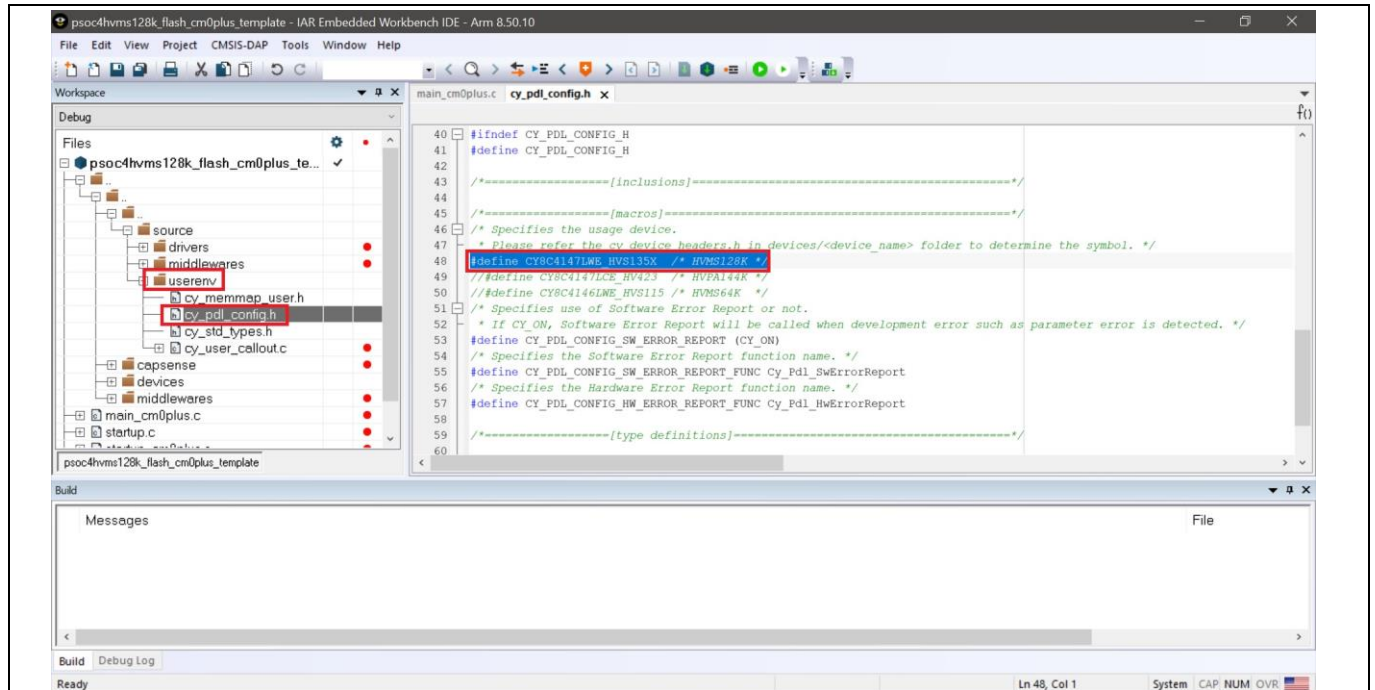

Figure 21 Selecting target device
- Open “cy_pdl_config.h” present under “userenv” folder and select device for HVMS128K, as shown in Figure 21.